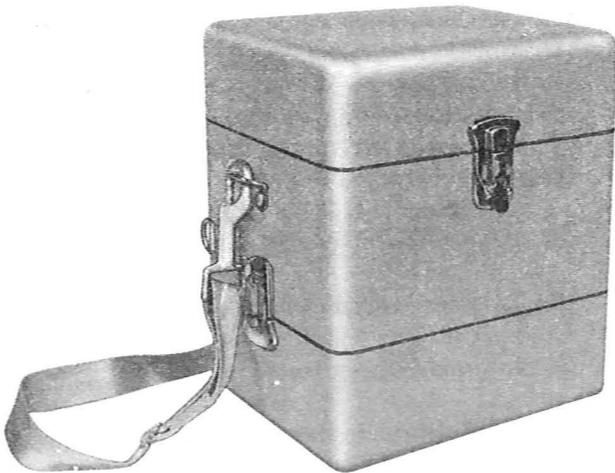

Fig. 1—146A Test Set—Enclosed in Case for Storage and Transit
2.01 The 146A test set, shown in Fig. 1, is housed in an aluminum case consisting of a main body, top and bottom cover. In storage and transit, both covers should be securely fastened, by their latches, to the main body. The dimensions are approximately 7 inches by 8 1/3 inches by 9 1/2 inches and with batteries and cords weighs about 12 pounds. Each cover is fastened to the main body by two latches. To remove either cover, both latches must be released. There are two sets of "D" rings on the main body to which the nylon web carrying strap may be attached. The uppermost set of rings is used when carrying the set. The lower set of rings is used to suspend the set from a cable, strand, or other firm suspension point so the front panel can easily be seen by the user.